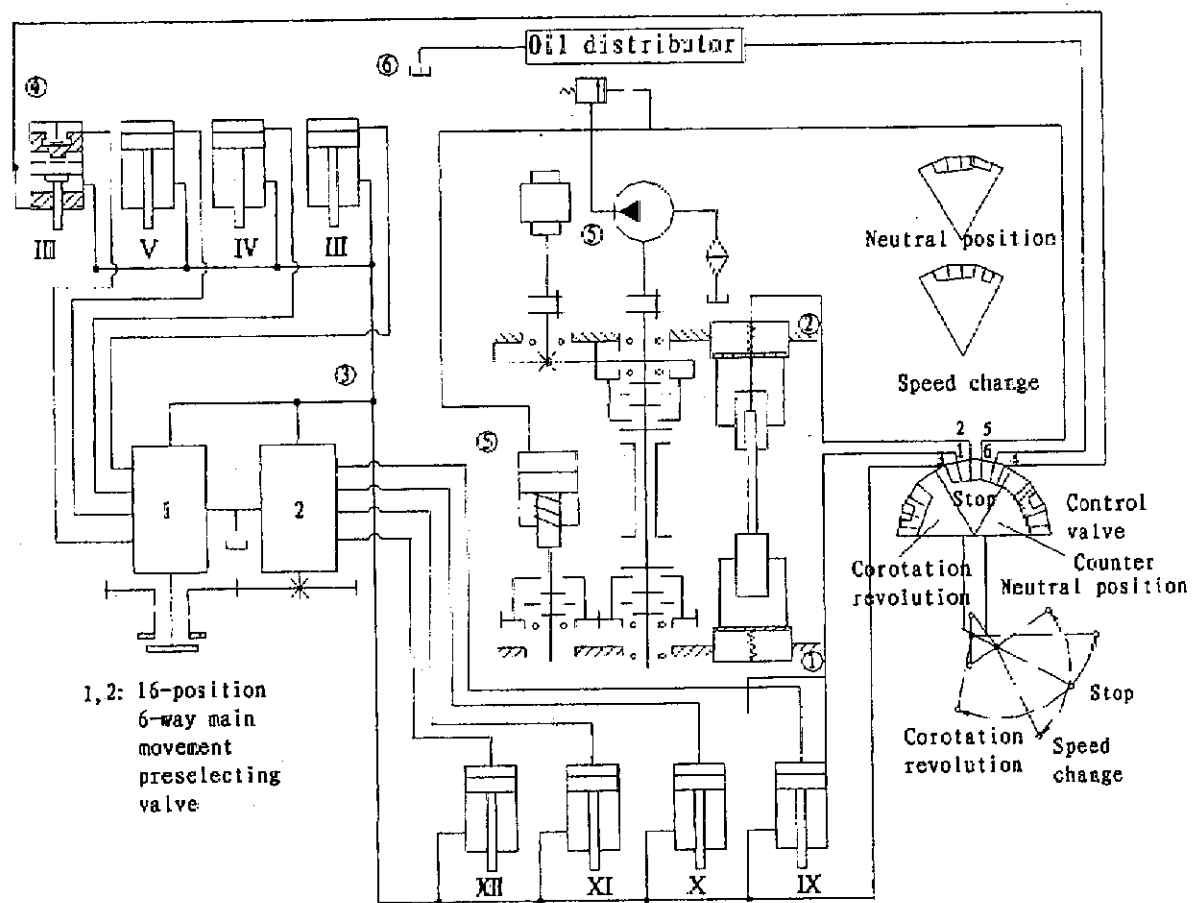

Fig. 8.2 Control Mechanism Hydraulic Schematic Diagram
8.1 Control Mechanism Hydraulic System (Fig. 8.2)